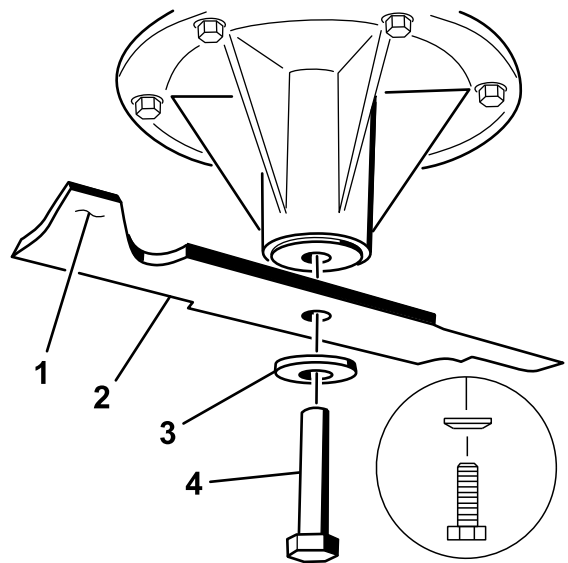

Figure 96
2. Remove the blade bolt, curved washer, and blade from the spindle shaft (Figure 96).